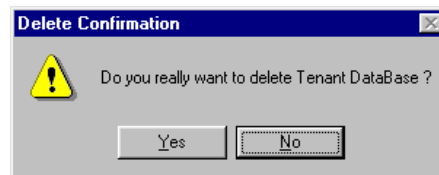

Figure 6.7
Step 2 Click on "Clear Tenant" text box and you will see figure 6.7: